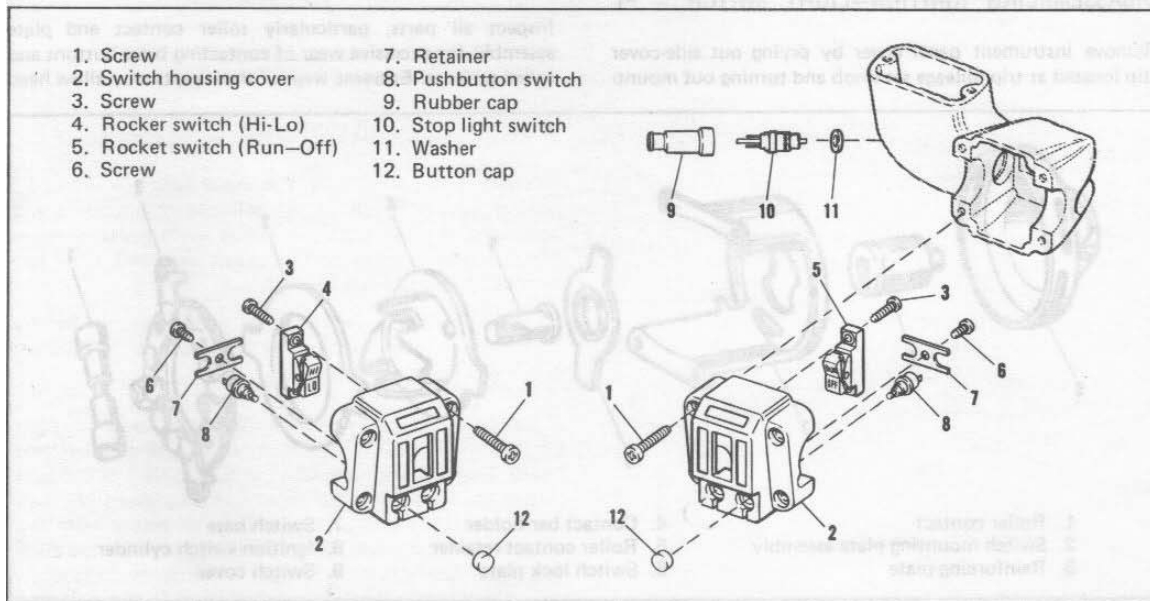

Figure 5-5. Handlebar Switch Assemblies
The left handlebar switch assembly, figure 5-5, contains a rocker arm switch (headlamp HI-LO beam) and two pushbutton switches (horn and left turn signal). The right handlebar switch assembly contains a rocker arm switch (RUN-OFF) and two pushbutton switches (engine start and right turn signal). Individual rocker arm and push button switches can be replaced if defective.
To replace individual switches, remove four screws (1, figure 5-5) and pull off cover (2) assemblies. Remove screws (3) and rocker switches (4 and 5) or screws (6), retainer (7) and pushbutton switch (8) as needed. Reassembly is the reverse of disassembly.
To replace stoplight switch in right handlebar assembly (figure 5-5), remove cover (2) and rubber cap (9). Disconnect wires and unscrew switch (10) and washer (11) from housing. Switch must be replaced as a unit.